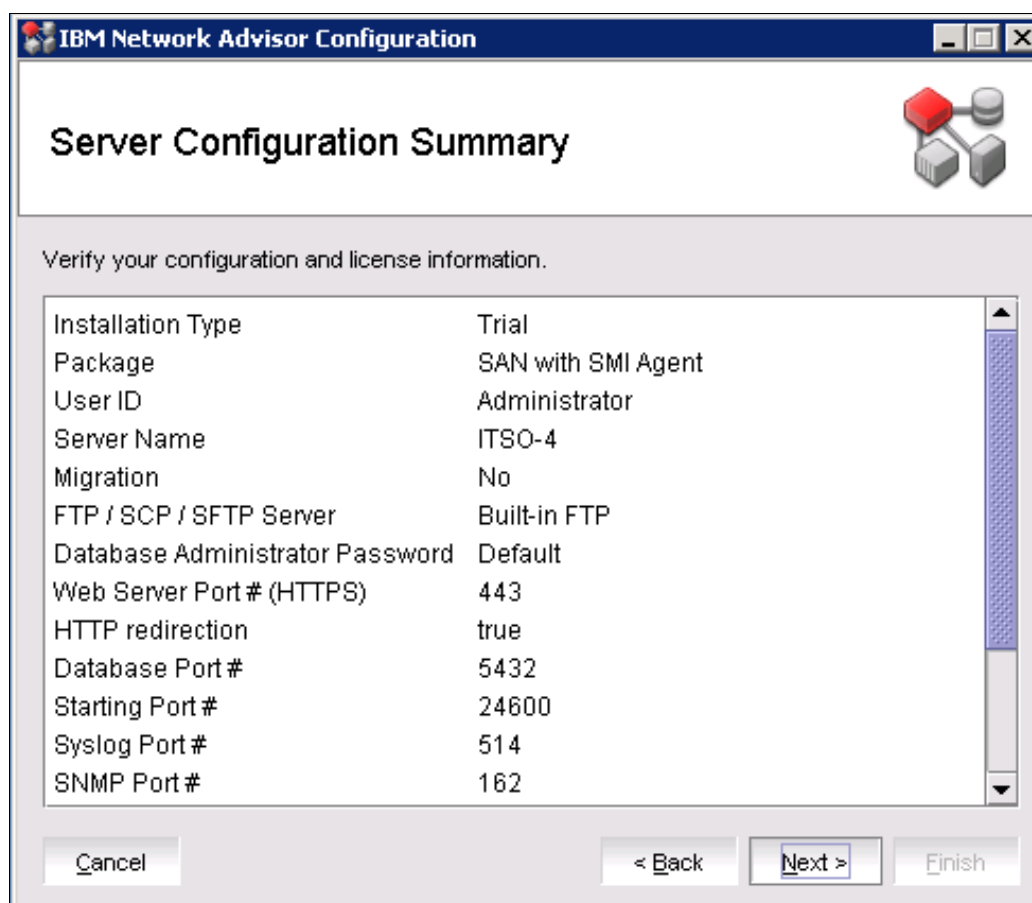

Figure 3-18 Server Configuration Summary window
18. The Server Configuration Summary window opens, as shown in Figure 3-18. Review the details in the window; if you are satisfied, click **Next**.
17. The Server Configuration Summary window opens, as shown in Figure 3-18 on page 90. If you want to change the settings, click **Back** and change the settings. If you do not want to change the settings, click **Next**.